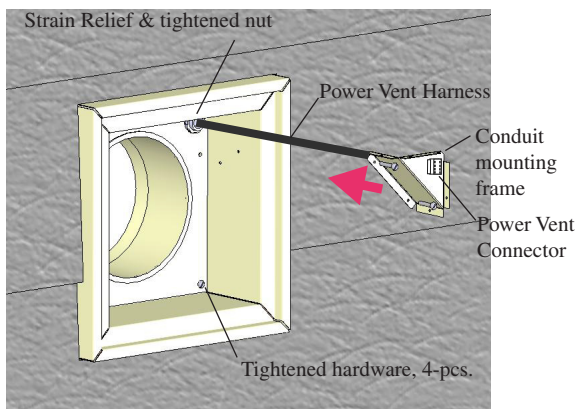

Figure 13d. Installing conduit connector and conduit mounting frame.
Step 6: Pull Power Vent connector from behind half way through supplied hole in conduit mounting frame. Snap into place, notches in two plastic wing clip. See **Figure 13d**.